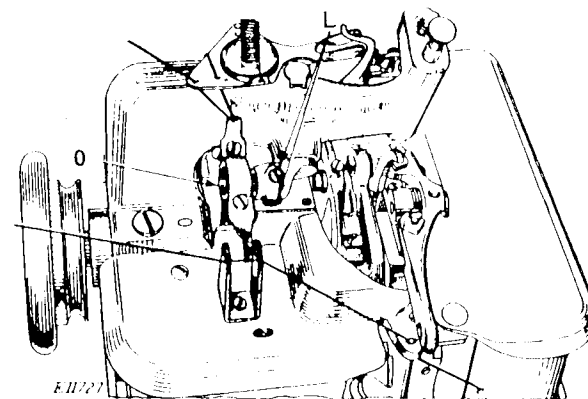

FIG. 14. TO CHANGE THE NEEDLE BAR STROKE
A variation in the amount of needle bar stroke can be obtained by adjusting the ball stud (O, Fig. 14). To lengthen the stroke, loosen the two set screws (L, Fig. 14) in the needle bar crank and move the ball stud inwardly or toward the crank. To shorten the stroke of the needle bar, move the ball stud outwardly or away from the crank, then securely tighten the set screws (L).